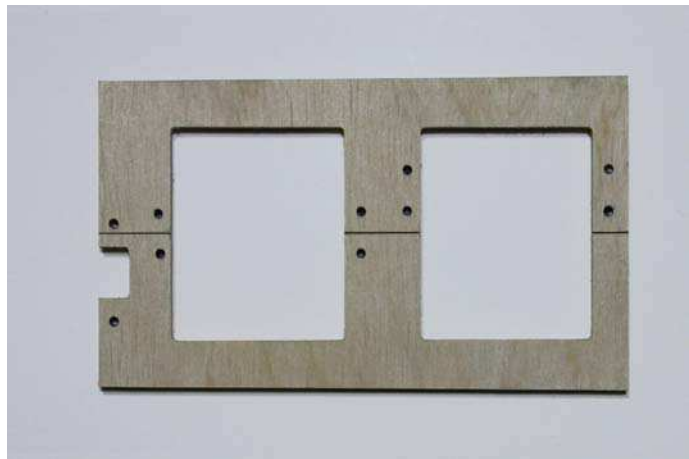

Fig.86: Drill the marked points.
- drill **1.5 mm** diameter hole on the marked points (see figure 86).